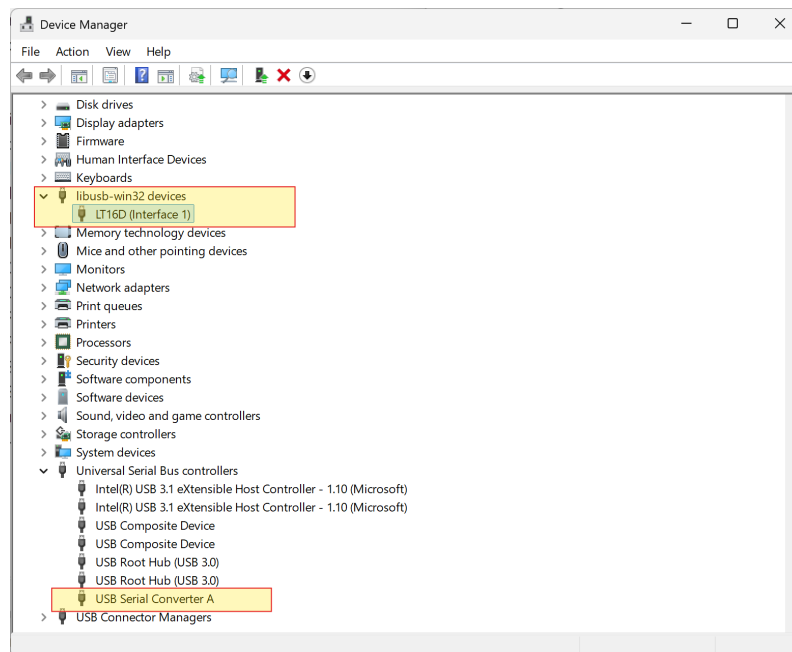

Figure 3.4: LT16M driver configuration in Device Manager
8. In Device Manager, update LT16D (Interface 0) to use USB Serial Converter A, it is different. For a successful setup, the device will appear in the device manager as Figure 3.4.
1. Open Device Manager on your PC, as seen in Figure 3.4.